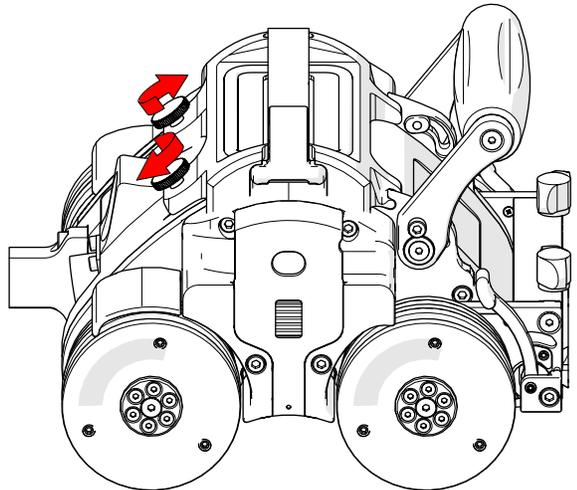

Fig. 102 - Tighten thumb screws
3. Lower the backpack to the **SKOOT** and tighten the thumb screws to secure the backpack (Fig. 102).